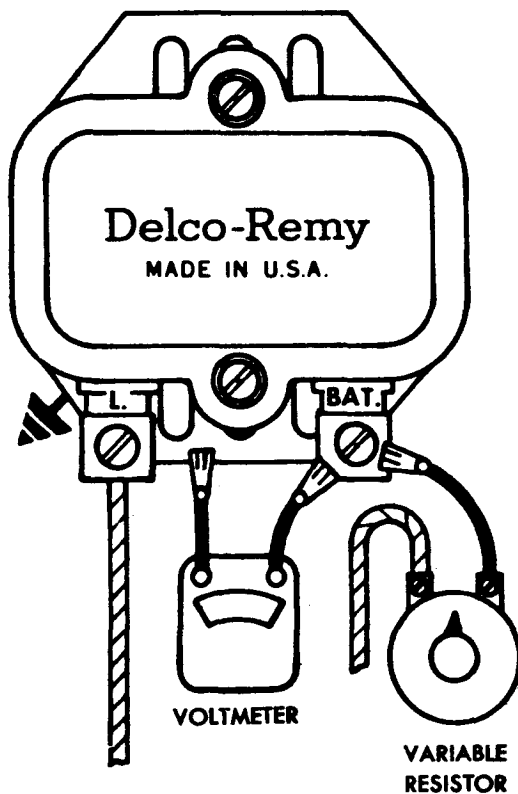

Figure 17—Connections for checking relay closing voltage.
1. Connect a 25 ohm variable resistor in the circuit at the "BAT" terminal on the relay, and a voltmeter from the "BAT" terminal to ground. See Figure 17.